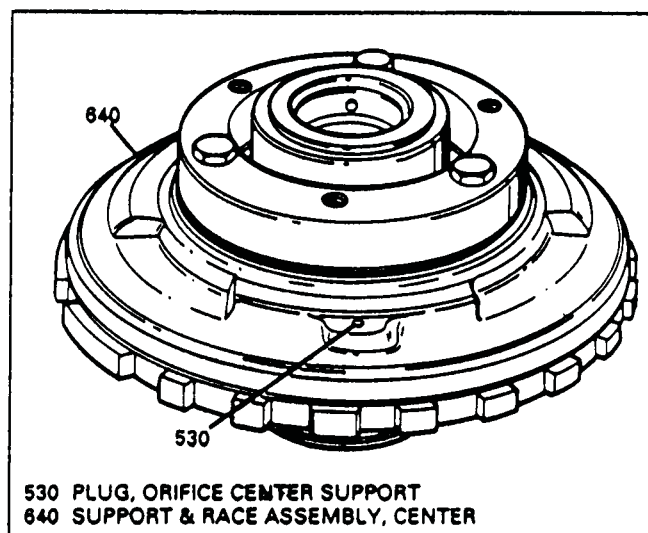

Figure 67
17. Inspect the center support assembly for any damage, and for presence of the orifice cup plug (See Figure 67).